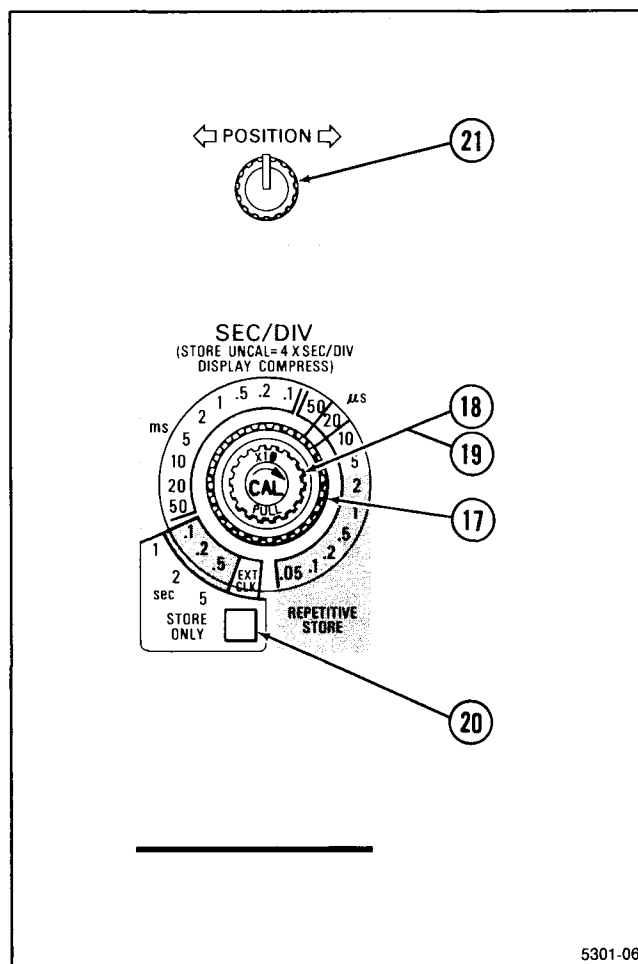

Figure 2-6. Horizontal controls.
See Figure 2-6 for the location of items 17 through 21.